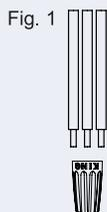

Fig. 1
4. Push wires firmly into connector; screw on. Fig. 1